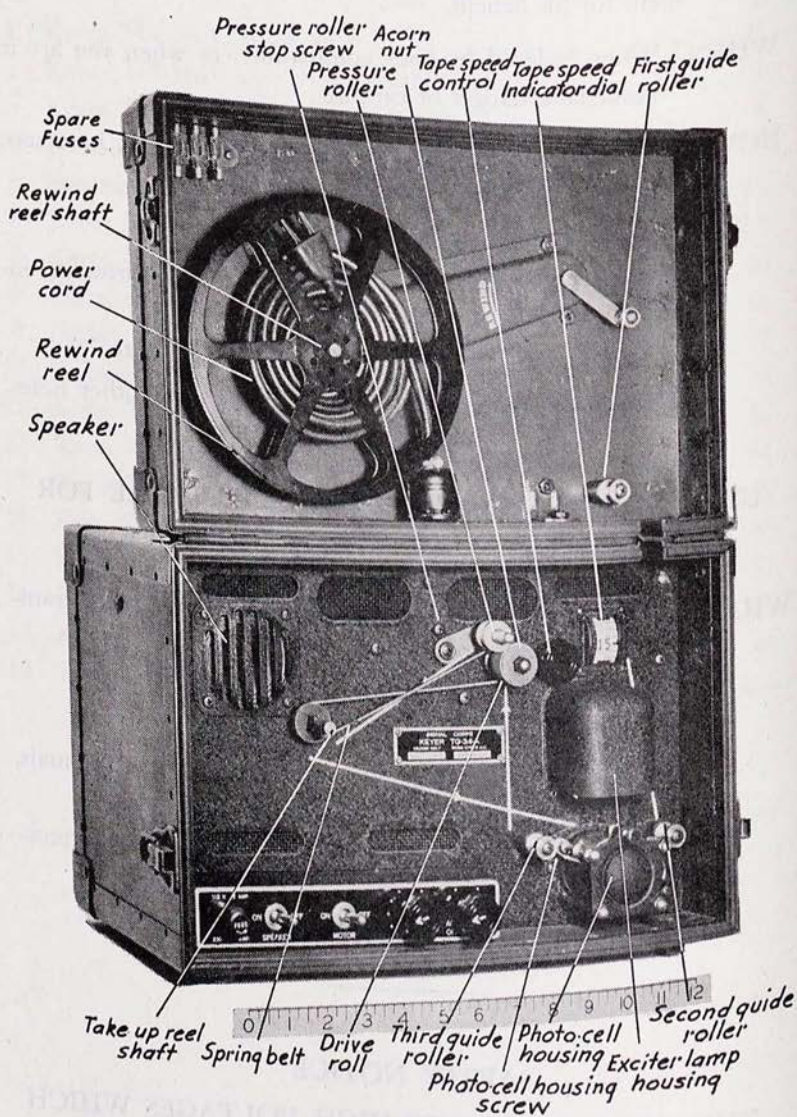
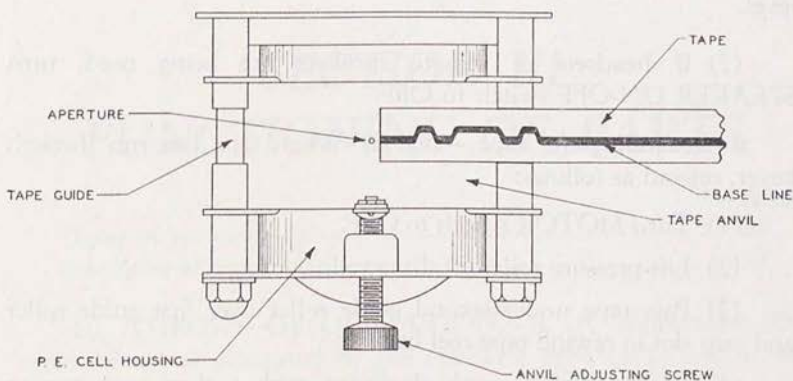

Figure 1.—Keyer TG-34-A, front view.
Figure 4.—Photocell aperture adjustment.
**1. GENERAL.**—Keyer TG-34-A, (fig. 1) is an automatic unit for reproducing audible code practice signals previously recorded in ink on paper tape. The unit is a component of Code Practice Equipment EE-94-C, EE-95-C, and EE-96-C. The unit can be used to provide code practice signals in permanent classrooms, for small groups in the field, or to provide a keying oscillator for use with a hand key. The unit is compact and portable, and reasonably weatherproof. It is self-contained, but requires an external a-c power source. Ventilation for the cabinet is provided by a fan which is attached to the lower motor shaft.
f. Tape-speed control knob (160), located on the upper right of the front panel, varies the speed of the drive roll (153).
**CAUTION:** If the tape drive is running, you can vary the speed of the drive roll without disengaging the pressure roller (156). If the TAPE DRIVE IS NOT RUNNING, NEVER VARY THE CONTROL without first disengaging the pressure roller by pushing it up against stop screw.
g. Tape-speed indicator dial (162) (figs. 1, 6) shows speed in feet-per-minute.
h. Photocell aperture and anvil adjusting screw (fig. 4).
j. Tape reels (165).
k. Tape drive roll (153).
l. Tape pressure roller (156).
m. Take-up reel drive belt (154).
n. Tape guide rollers (fig. 1).
o. Jack for keying (139).
(c.) Remove power cord from rewind tape reel in cover (fig. 1), and plug it into a-c input receptacle (135) (fig. 11) located near center of rear opening.
(2) *Speaker.*—No other connections are required to operate the unit with the speaker (141) which is located behind the metal grille on upper left corner of front panel.
**8. PREPARATION FOR USE.**—a. *Adjusting photocell aperture.*—(fig. 4) To adjust this aperture, cut or fold a piece of practice tape at a point between letters or words and lay it in the right tape guide and roller in such a position that the end of the tape comes just even with the aperture (small opening) in the tape
b. *Mounting practice tapes.*—(figs. 1, 3) Place an empty 400-foot reel (165) on the take-up shaft (164) located on the left center of the front panel. Mount the reel of practice tape on the rewind reel shaft located in the left center of the upraised cover. Be sure to place reel in such manner that tape comes off the top of reel, inked side down. Thread tape over first guide roller (lower right corner of cover) under second roller, over tape anvil (163), and under third
(2) When the tape moves over the anvil the quantity of light received by photocell varies as the inked base line (fig. 4) or white space passes over the aperture.
(3) Photocell Tube VT-252 (105) permits current to flow when light from the exciter lamp (138) passes through the white portion of the tape and activates the photocell. This reduces the bias on grid 3 of the Tube VT-87-A (102).
*NOTE: Use potentiometer (125) to control the photocell voltage, making the cell respond properly to the light variations through the tape. Additional range of cell voltage may be obtained by adjusting potentiometer (126).*
(4) Tube (102) then functions as an amplifier and the resultant signal in its plate circuit takes the form of the recorded dots and dashes. The signal feeds through capacitor (110-1) into volume control (127), is adjusted to the desired level, and reaches the grid of Tube (103).
*c. Amplifier.*—Beam-power Tube VT-107-A (103) further amplifies the signal and feeds output transformer (131). Output transformer (131) transfers signal to low impedance output terminals (140). Capacitor (110-2) resonates output transformer primary to approximately 800 cycles.
*d. Power supply.*—D-C operating voltage is supplied by conventional full wave rectifier and filter system consisting of transformer (130), Tube VT-197-A (104), capacitor (113-1), filter choke (129), and capacitor (113-2).